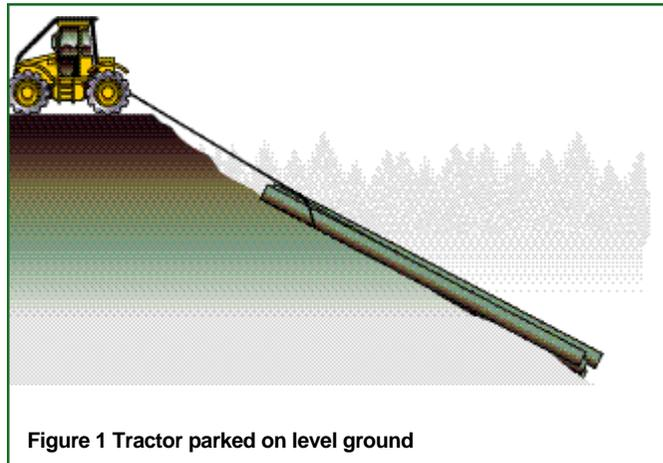

Figure 1 Tractor parked on level ground
- 14 Park the tractor in a stable position where it is as level as possible (see Figure 1).